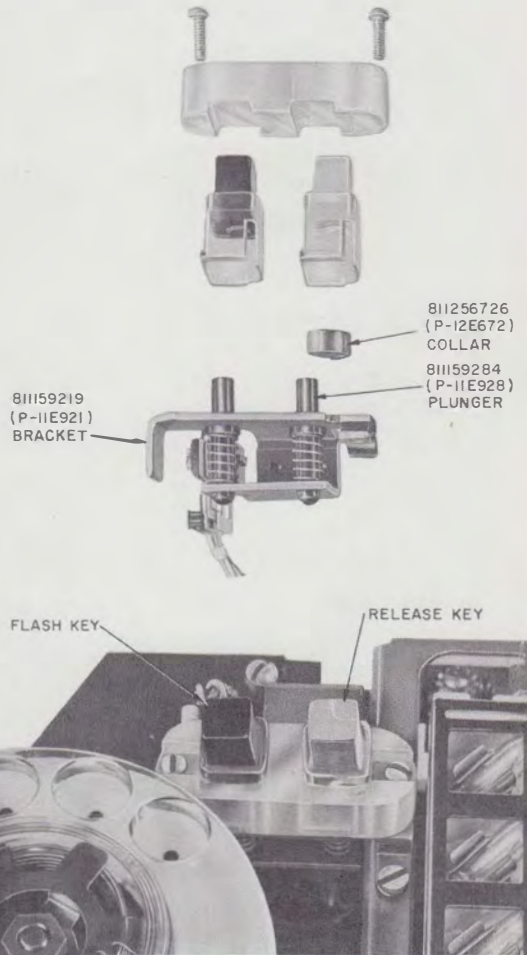

Fig. 27—811159872 (P-11E987) Switch Assembly
- (3) Remove button assembly.
- (4) Place 811256726 (P-12E672) collar around 811159284 (P-11E928) plunger (Fig. 27).
- (5) Reassemble switch assembly.